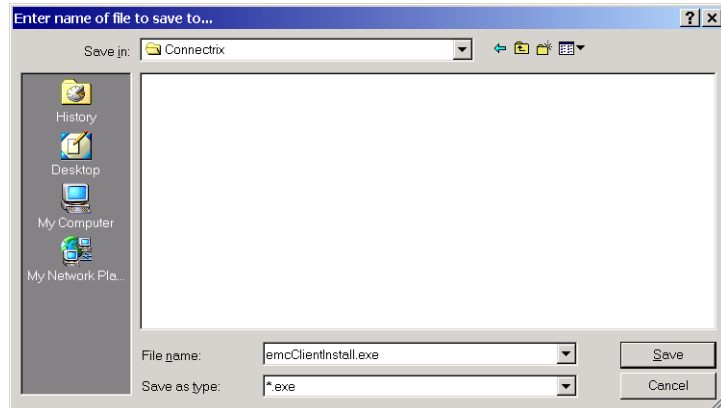

Figure A-6 File Save Dialog Box
7. In the Save dialog box (Figure A-6), select a folder and click **Save**. *Do not change the file name or type.*